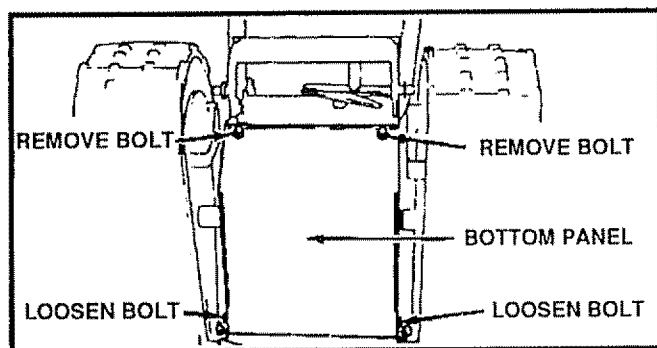
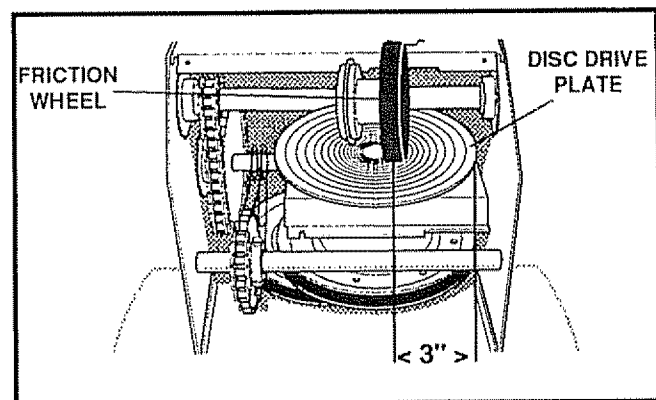

FIG. 31
FIG. 32
- Remove the bottom panel (See Fig. 31).
- Position the shifter lever in first (1) forward gear.
- Note the position of the friction wheel on the disc drive plate. The right outer side of the disc drive plate should be 3" from the center of the friction wheel (See Fig. 32)